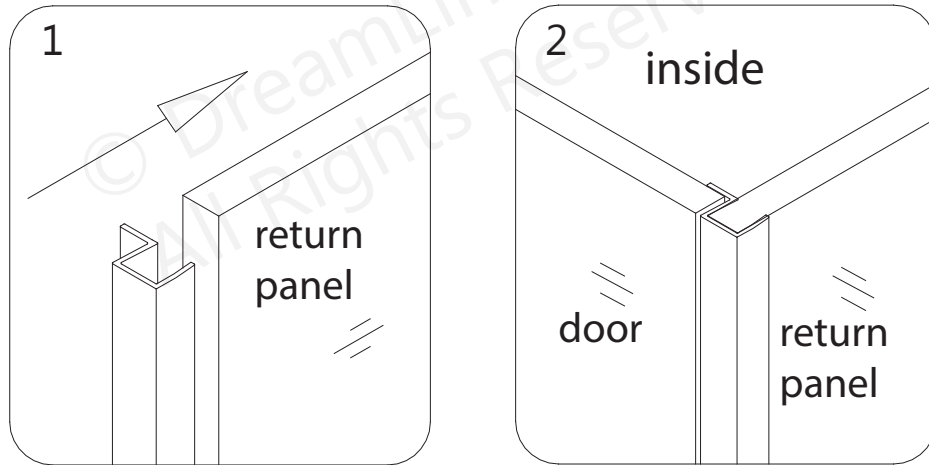

Fig 10
10. Attach the **Strike Vinyl Seal (#12)** to the edge of the **Return Panel Glass (#03)**. (Fig 10)